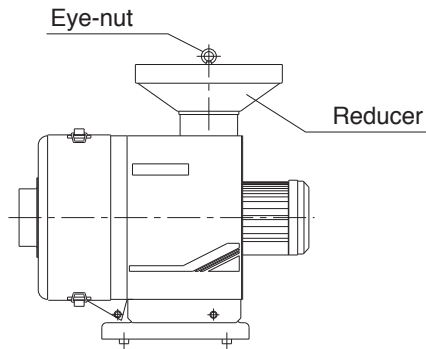

Fig.6
② Installing on the CRH model
- a Remove the eye-nut which secures the reducer at the top of the Mistresa (see Fig.6).